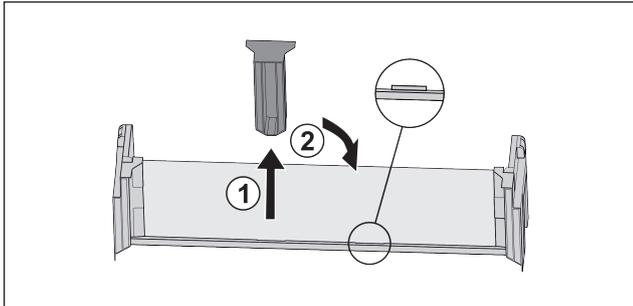

Fig. 90
- ▶ Pull off the middle holder Fig. 90 (1).
- ▶ Insert the middle holder in the second position Fig. 90 (2).